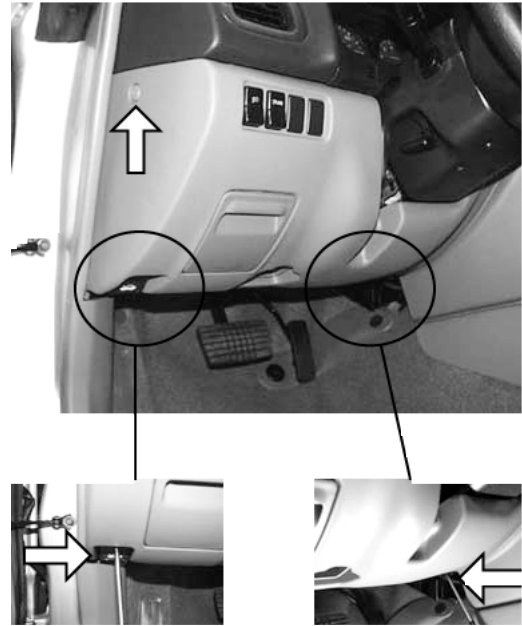

Figure 7
9. Remove one plastic screw and two metal screws indicated by the arrows in Figure 7, then remove the lower dash panel by pulling the upper side of the lower dash panel toward you.